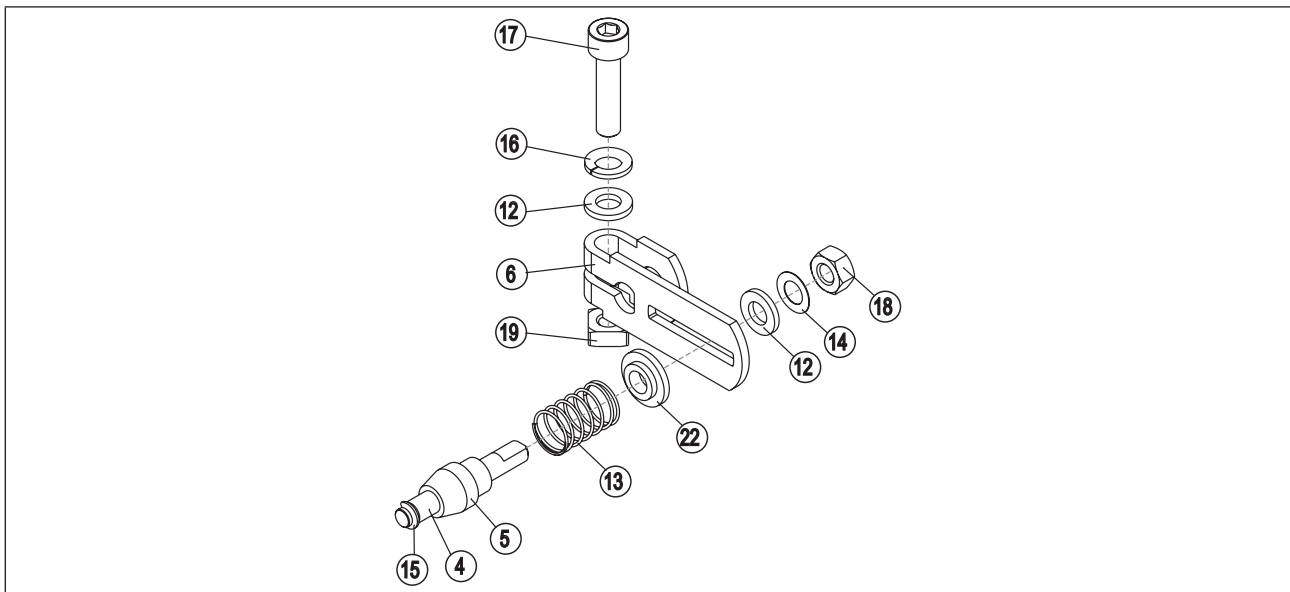

Figure 22: Assembling the lever
- Assemble lever (if not pre-assembled) "Figure 22".